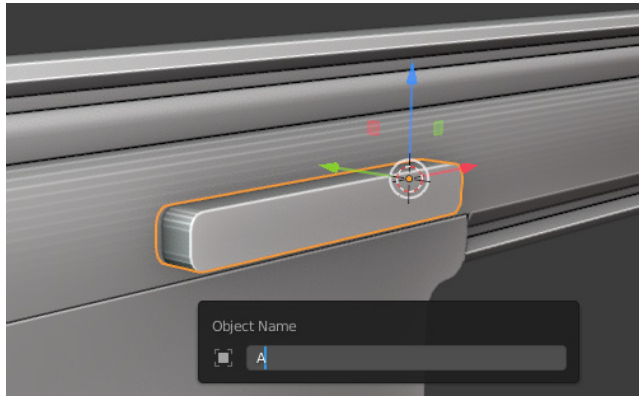

Figure 3.18 – Object Name
5. Add a cube with beveled edges that clips through the receiver just a little, like in *Figure 3.18*. Use the reference image we created at the beginning of *Chapter 2, Creating Basic Shapes for an FN SCAR*, to locate exactly where this should be placed.